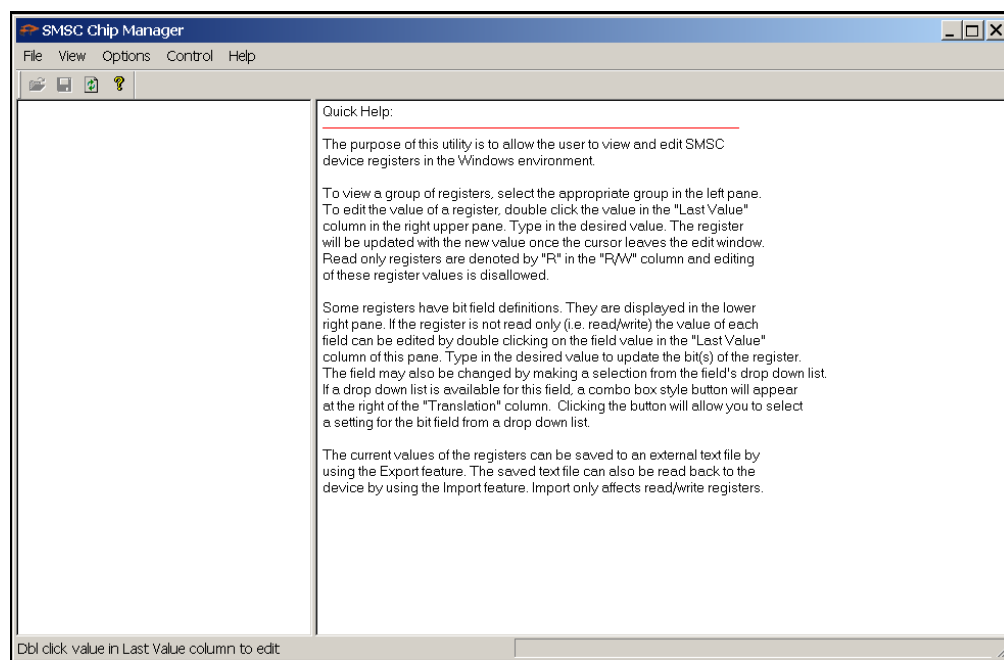
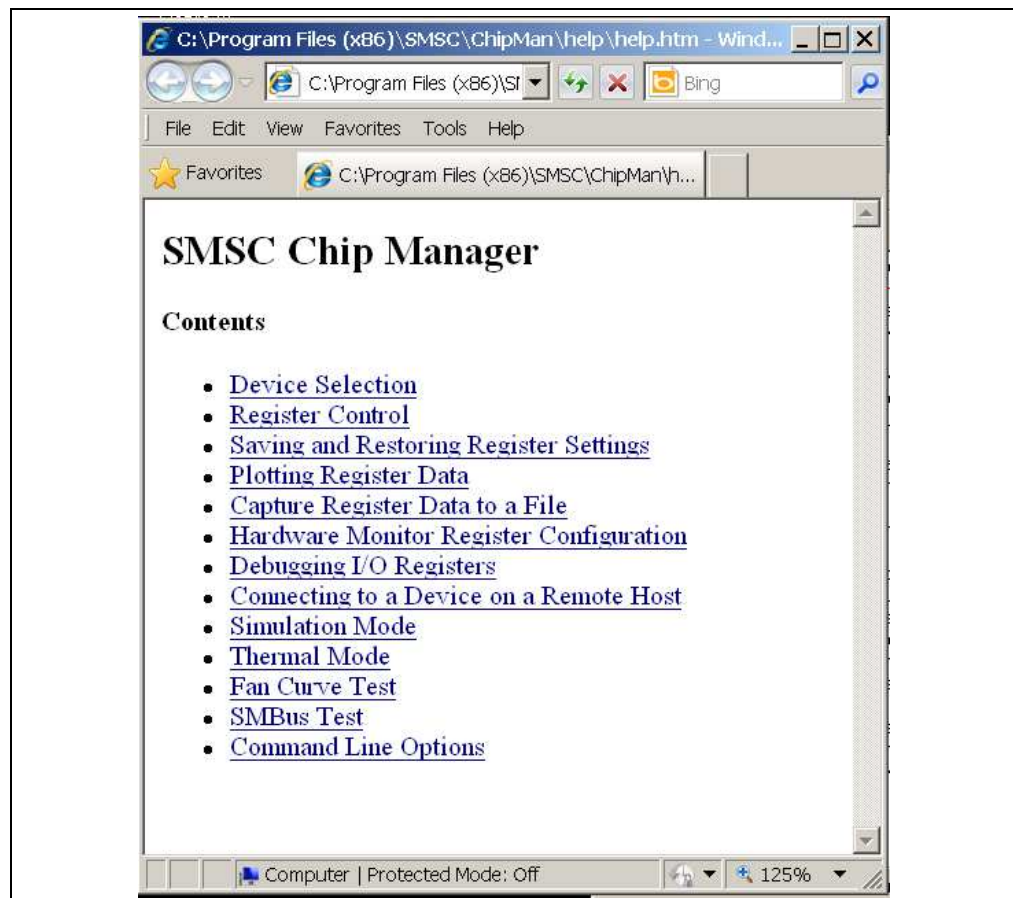

FIGURE 2-7: SMSC Chip Manager with Quick Help Window.
FIGURE 4-1: *Chip Manager Help Screen.*
- Start the software by either going to Windows Start button > All Programs > SMSC > SMSC Chip Manager or by double-clicking the software icon (📁) on the desktop. The evaluation board software will initialize and the SMSC Chip Manager with the Quick Help screen appears (see Figure 2-7).
The Chip Manager application enables the user to display temperature readings, set temperature limits and read/write configuration register values. The Chip Manager initially displays a Quick Help screen (see Figure 2-7). For detailed information on application features and usage, select *Help > Contents* to display the HTML-based Help document, as shown in Figure 4-1.